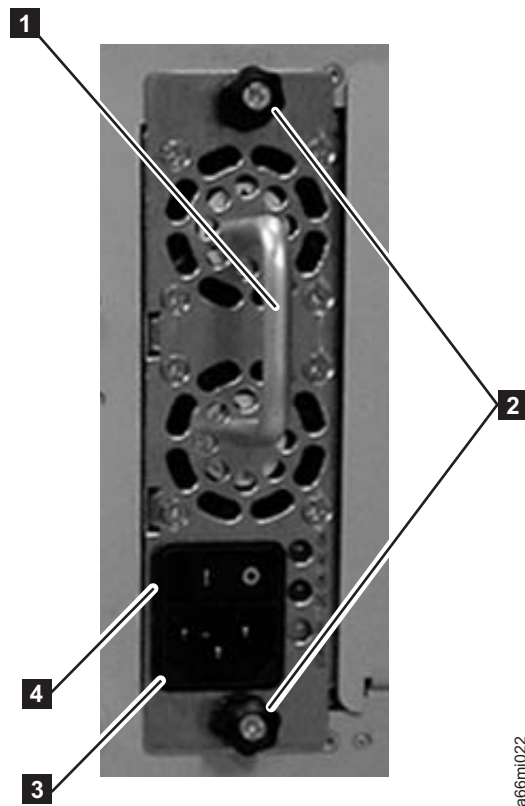

Figure 8-32. Power Supply
Attention: First, disconnect the power cord from the power source. Then, disconnect the power cord from the power supply receptacle (**3** in Figure 8-32).
3. Loosen the two thumb screws (**2** in Figure 8-32) by turning them counterclockwise.
4. Grasp the handle (**1** in Figure 8-32) and slowly pull the power supply toward you, while supporting it from underneath.
2. Grasp the power supply handle (**1** in Figure 8-32 on page 8-36) while supporting it from underneath. Then, line up the power supply with the guides in the slot, and carefully push the power supply into the library.
3. Tighten the two thumb screws (**2** in Figure 8-32 on page 8-36) on the power supply by turning them clockwise.
Attention: First, connect the power cord to the power supply component (**3** in Figure 8-32 on page 8-36). Then, connect the power cord to the power source.
5. Toggle the power switch (**4** in Figure 8-32 on page 8-36) on the power supply to the I (ON) position.
2. Toggle the redundant power supply power switch (**4** in Figure 8-32 on page 8-36) to the O (OFF) position.
3. Unplug the power cord from the redundant power supply receptacle (**3** in Figure 8-32 on page 8-36).
4. Loosen the two thumb screws (**2** in Figure 8-32 on page 8-36) by turning them counterclockwise.
5. Grasp the handle (**1** in Figure 8-32 on page 8-36) and pull the power supply toward you. Support the component from underneath with your other hand.
3. Insert the redundant power supply by gripping the handle (**1** in Figure 8-32 on page 8-36), sliding it into the guide slots, and pushing it into the empty slot.
4. Tighten the two thumb screws (**2** in Figure 8-32 on page 8-36) that hold the redundant power supply in place.
5. Connect the power cord to the power supply (**3** in Figure 8-32 on page 8-36) and to its source.
6. Turn on power to the redundant power supply, using the switch (**4** in Figure 8-32 on page 8-36) on the power supply.